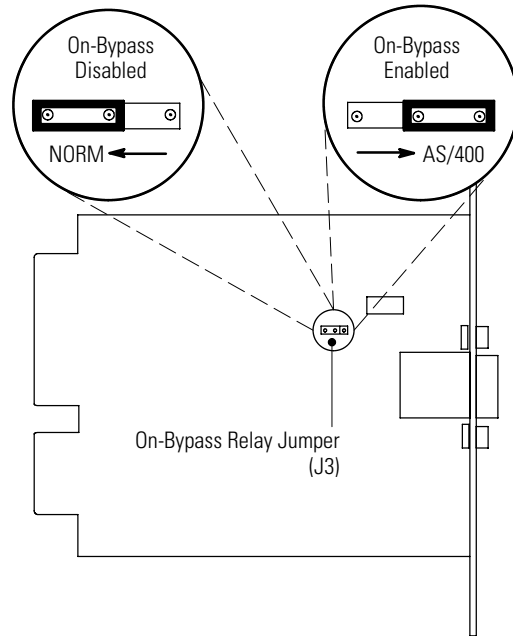

Figure 25. On-Bypass Relay Jumper
2. Move the J3 jumper to the AS/400® position to enable the On-Bypass relay as shown in Figure 25.